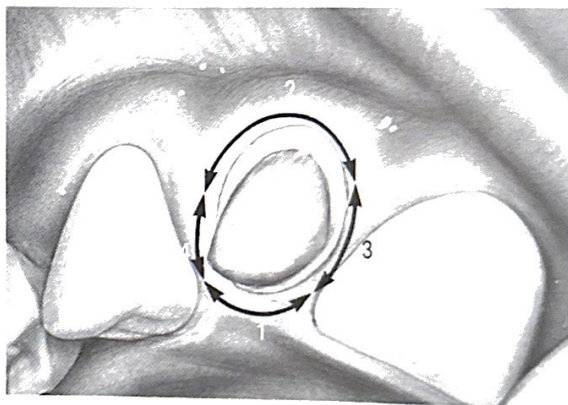
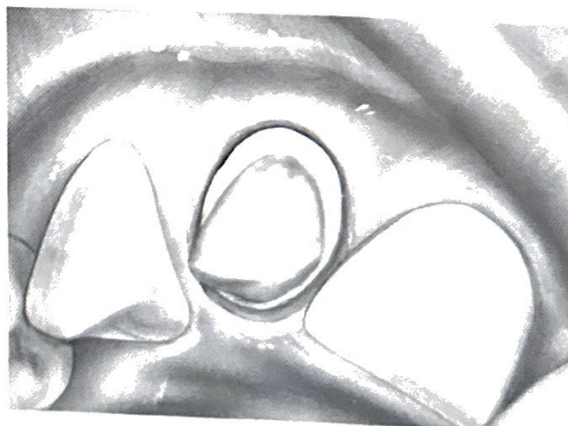

Figure 7.
Figure 8.
3. Begin troughing on the lingual surface, so you can adjust output intensity, stroke speed, and cutting depth before operating on the facial surfaces. You should not attempt to create a gingival trough with one continuous sweep around the circumference of the tooth. Instead, the troughing should be performed in four separate, short cutting strokes (Figure 7), each sweeping a quadrant of the gingival sulcus. The following cutting stroke order
is recommended: the palatal (lingual) surface, the labial (buccal) surface, the mesial surface, and the distal surface. As shown in Figure 7, the last two (shorter) excisions join the first two to create a continuous and uniform gingival trough. Figure 8 shows the immediate postoperative condition of a gingival trough.